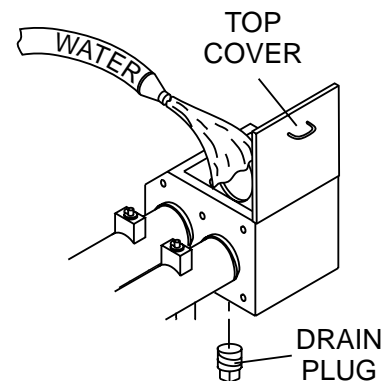

Figure 50. Cleaning the Lubrication Box
1. Remove the top cover and the drain plug (Figure 50) located at the bottom of the box and fully drain the inside of the box.
3. While stroking, spray water inside of the box to thoroughly clean out all contamination (Figure 50).